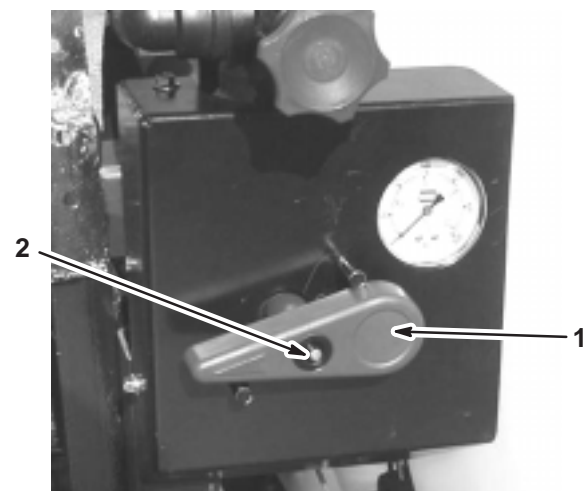

Figure 14
7. Install the red handle on the face of the control valve assembly and secure it with the screw as shown in Figure 14.
Note: Ensure that you install the handle in the orientation shown in Figure 14.